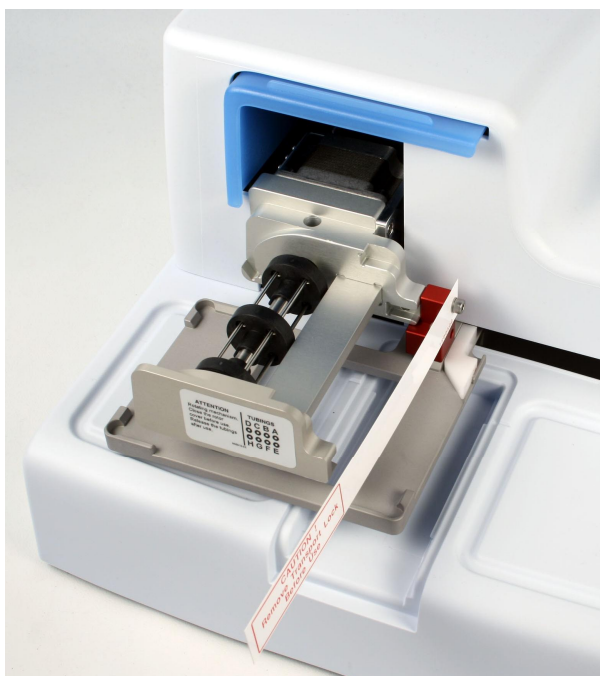

Figure 3–5. Transport lock and transport lock tag present
The instrument has a transport lock (Figure 3–5).
1. Unscrew the two screws marked 1 and 2 of the transport lock with the hexagonal screwdriver supplied (Figure 3–6) so that the track mechanism is loosened.